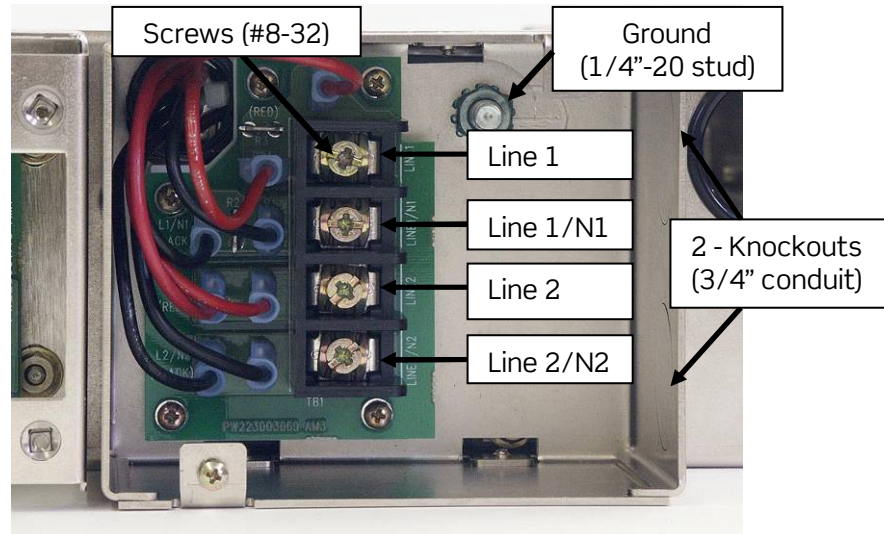

Figure 14 - AC Terminal Block Connections (Dual Feed)
2. Connect the first line/hot to Line 1, labeled on the AC terminal block (Figure 14).